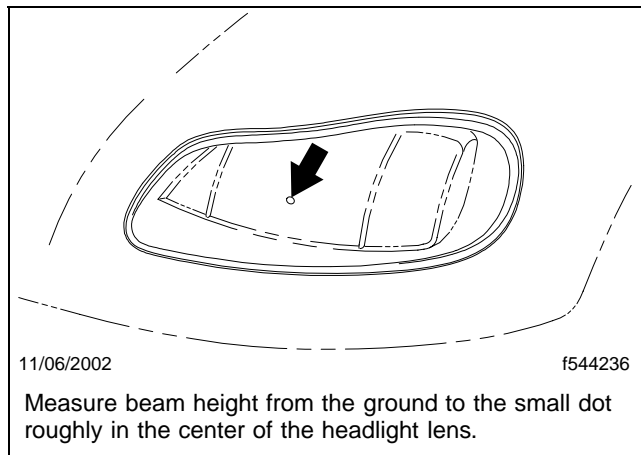

Fig. 2, Headlight Beam Height Adjusting Dot
2. On each headlight, find the bulb center. See **Fig. 2**.